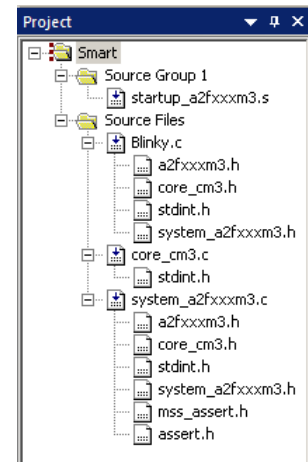

Figure 30: Project Menu
14. Click once (carefully) on the name "Target 1" (or twice if not already highlighted) in the Project Workspace and rename Target 1 to something else. I chose Smart as shown in Figure 30. Press Enter to accept this. Note the Target selector also changes to Smart. Click on the + to open up the directory structure if necessary. You can create many target hardware configurations including a simulator and easily select them.